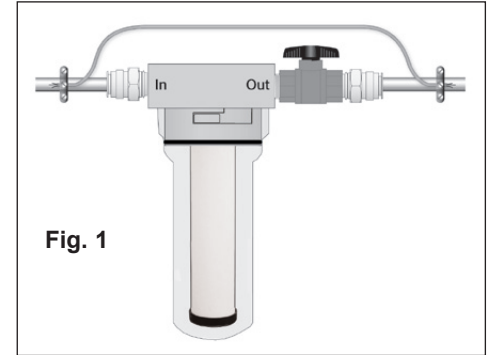
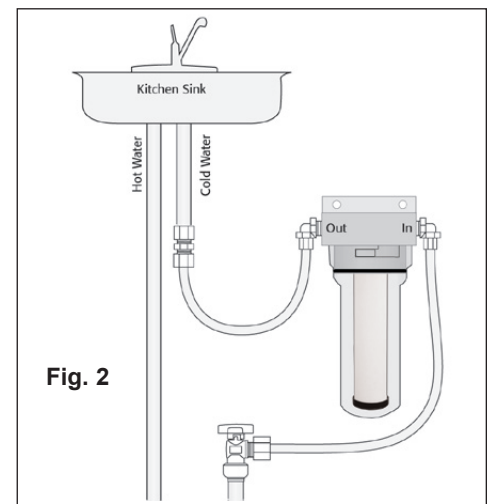

Fig. 1
Fig. 2
It may be installed in-line as shown in Fig. 1 or undersink as shown in Fig. 2.
For solderless installation use Rainfresh CK1P connector kit for inline installation (Fig. 1) or CK3 connector kit for undersink installation (Fig. 2). (sold separately)
2. Install filter using Rainfresh Connector Kits CK1P for In-line (Fig. 1) or CK3 Kit for undersink (Fig. 2) or standard pipe fittings in desired location making sure water enters inlet side of filter as marked on Filter Head.
3. Remove sump by turning 1/8th turn counterclockwise and lower. Remove protective bubblepack around 1M Cartridge. The filter unit comes with a ceramic adaptor (1007-0) that is threaded onto the cartridge and allows a simple press up fit of the cartridge over the center boss of the filter head (501). To replace sump, align the sump grooves with filter head (501) lugs and push straight up onto the head. Turn the sump 1/8 turn to right to lock.